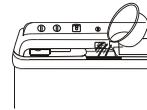

Figure 2
- (2) Set the water level adjusting lever to needed line. (Figure 2)
2. Fill the water and add the dissolved washing powder to make the water level reach the preset position. (Figure 2)